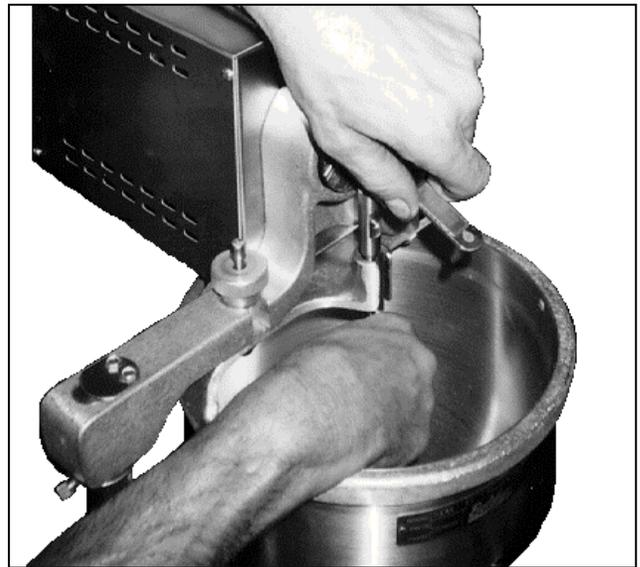

Figure 1-7. Installing the Plunger.
- d. Lower the connecting rod and insert the pin into the hole near the top of the plunger center rod. (See Figure 1-7.)